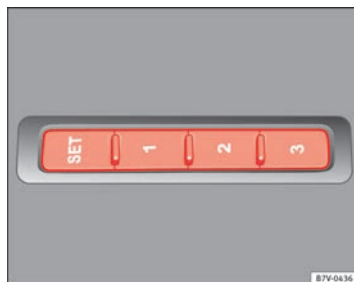

Fig. 80 Memory buttons on the outside of the driver seat
- Keep the **SET** button held down for more than one second → fig. 80.